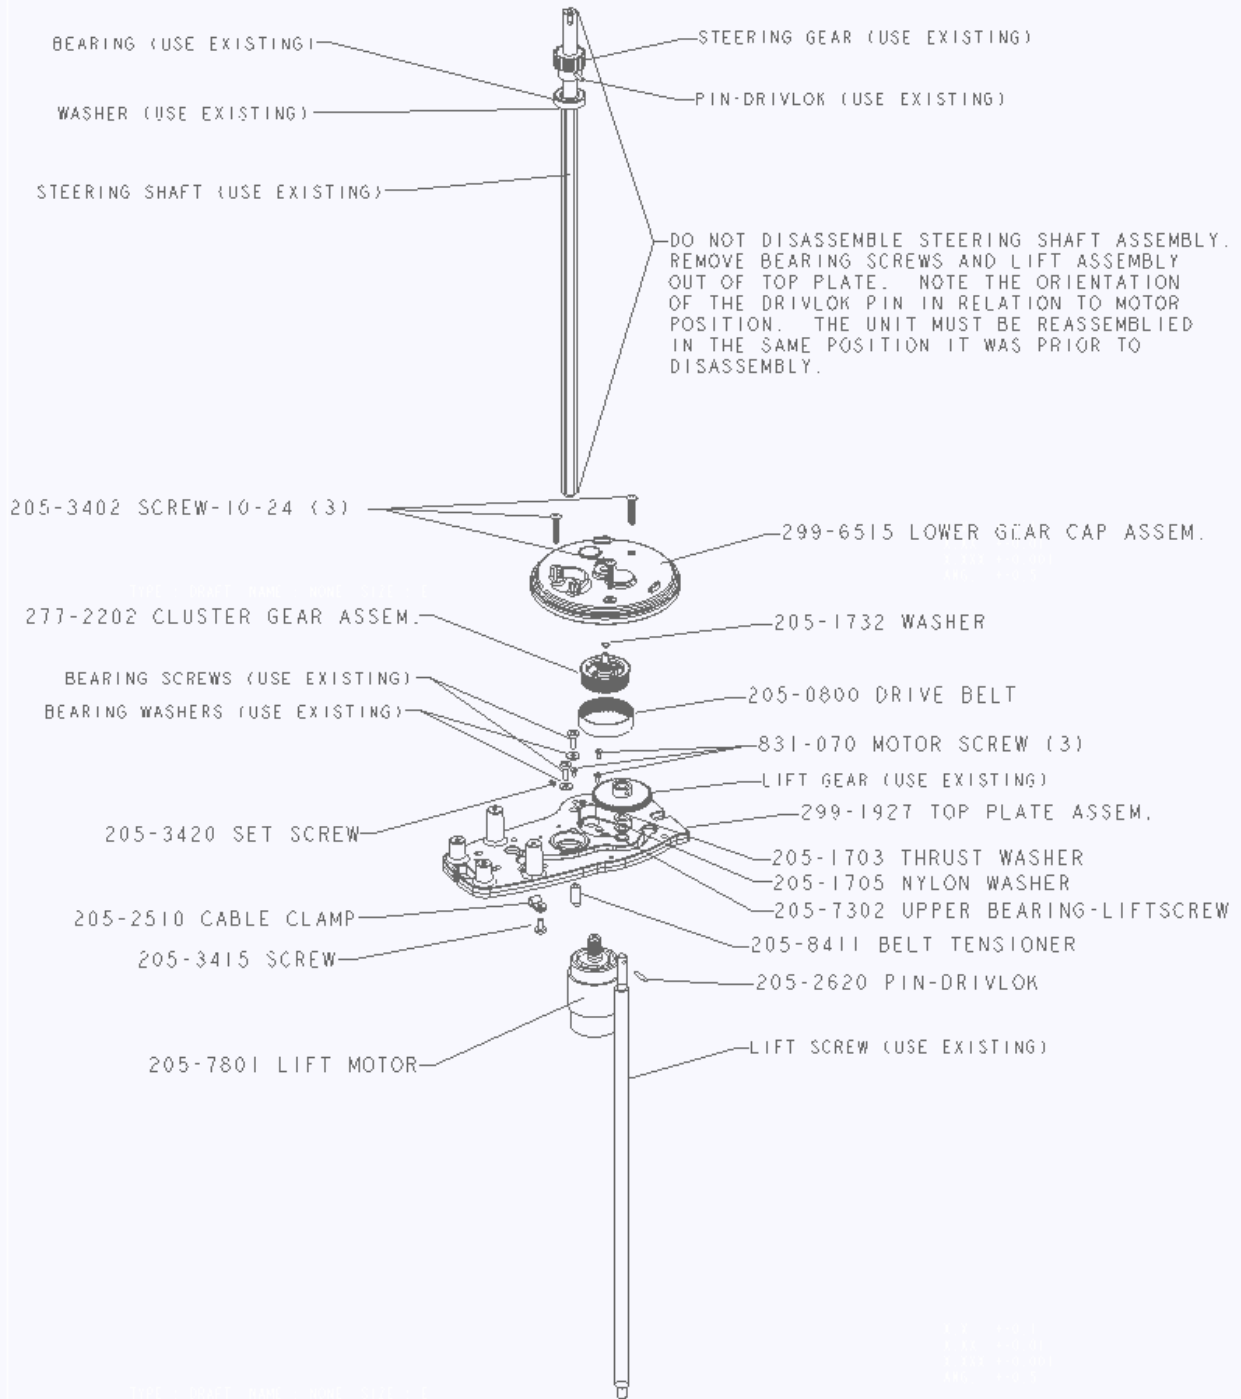

Figure 7
The upgrade kit consists of the parts shown in **figure 7 (page 10-9)**. Many Vantage motors have already been updated in the field with the new *Lift System Upgrade Kit*, so the serial number may not always be a good indicator if the kit is required. To determine if the motor being serviced has the upgrade kit, examine the lift motor pulley. The top of the pulley will be machined away to allow the larger diameter pulley flange to clear.
- B-2.** If examination of the lift system indicates that the motor has the newer lift system installed, tighten the belt by loosening the 3 screws (P/N 831-070) that hold the lift motor in place. **NOTE:** To access one of these screws, you will need to rotate the flange pulley/cluster gear assembly (**figure 7 on page 10-9**). Loosen the setscrew (P/N 2053420) and then, using a 5/32" allen wrench, rotate the belt tensioner (P/N 2058411). Turning the allen wrench CW or CCW will move the motor to adjust the belt tension. With the belt tight, retighten the 3 motor screws and the belt tensioner setscrew. Check motor lift system operation, and reassemble in reverse order of disassembly.